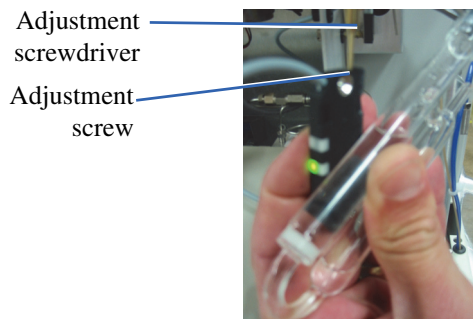

Figure 10.5. Liquid in the sparge vessel does not actuate the sensor
4. Turn the adjustment screw located on the top of the SOS using the adjustment screwdriver. Turning the screw counterclockwise makes the sensor less sensitive and turning it clockwise makes the sensor more sensitive. Adjust the sensitivity so the water in the sparge vessel does not actuate the sensor and the orange light does not switch on (Figure 10.5).